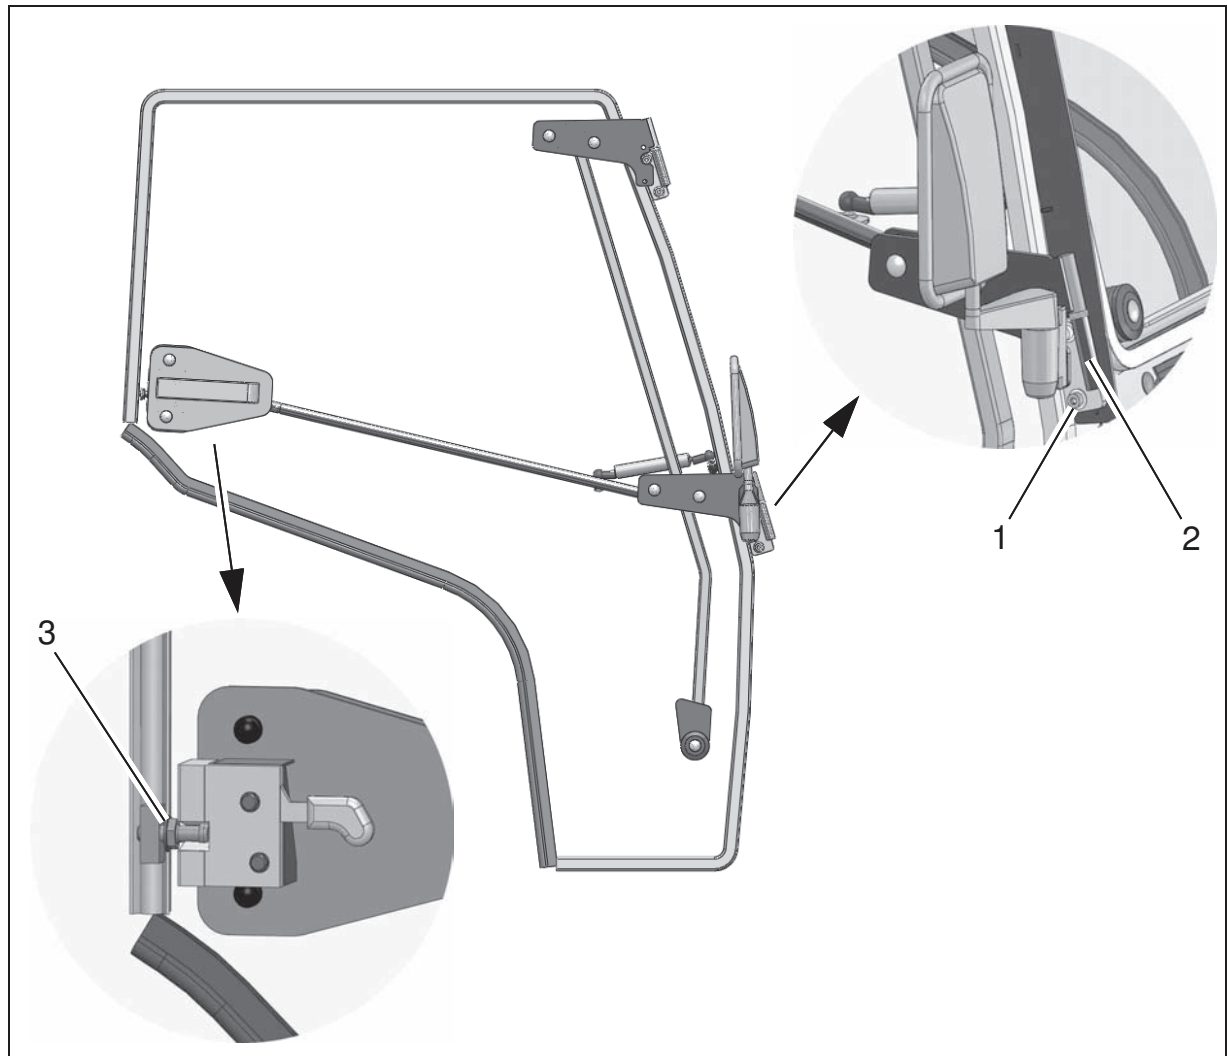

Fig. 9
1. Mount the door hinges (Fig. 9/1) on the frame, at the top on the roof beam and at the bottom on the side. Do not tighten the screws at this point!
2. Mount the left and right-hand doors (Fig. 9/2) in the door hinges.
3. Assemble the striker plate (Fig. 9/3), close the door, align it and tighten the screws.